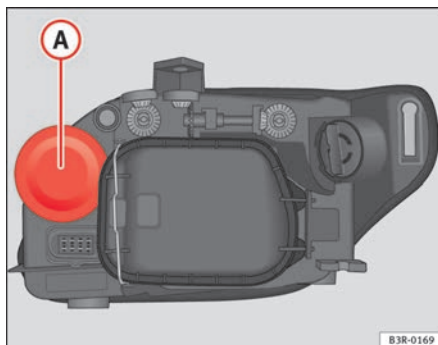

Fig. 191 Main beam headlights
- Remove the rubber cover (A) ⇒ fig. 191 by pulling it.